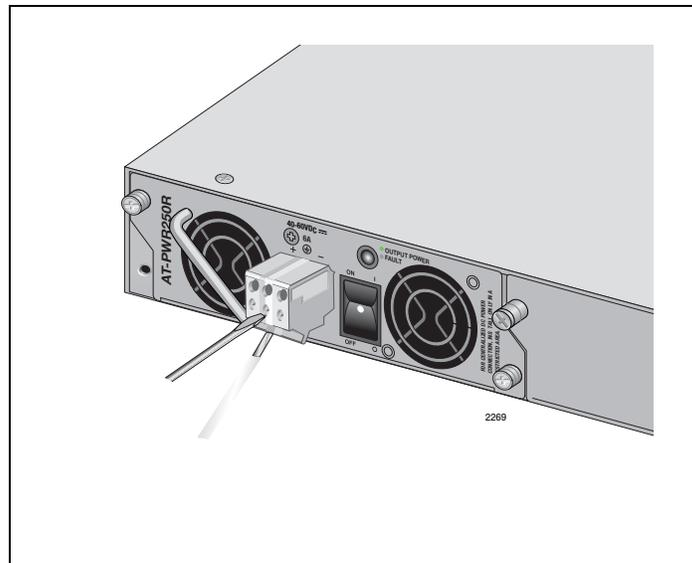

Figure 35. Inserting Wires into a DC Terminal Block
- Insert the power supply ground wire into the middle connector of the DC terminal and tighten the connection with a flathead screwdriver, as shown in Figure 35 on page 75.